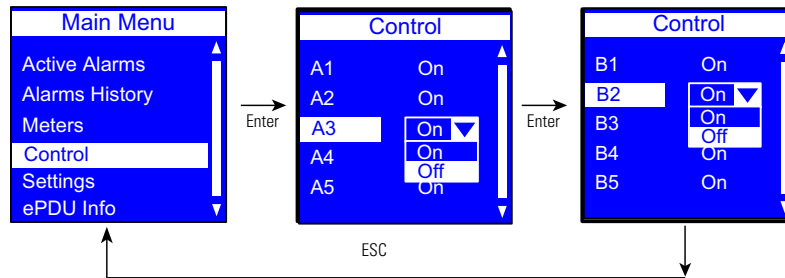

Figure 52. Example Control Submenu Display
For Switched (SW) and Managed (MA) ePDUs only. On the Main Menu, scroll up or down to highlight **Control**. Press **ENTER**. Scroll up or down to see a list of outlet group IDs. Select an outlet group. The On/Off drop down list displays. Select On or Off. The selected state of the outlet displays. Scroll up or down to see other lists of outlet group IDs (if available). Press **ESC** to return to the previous menu (see Figure 52).